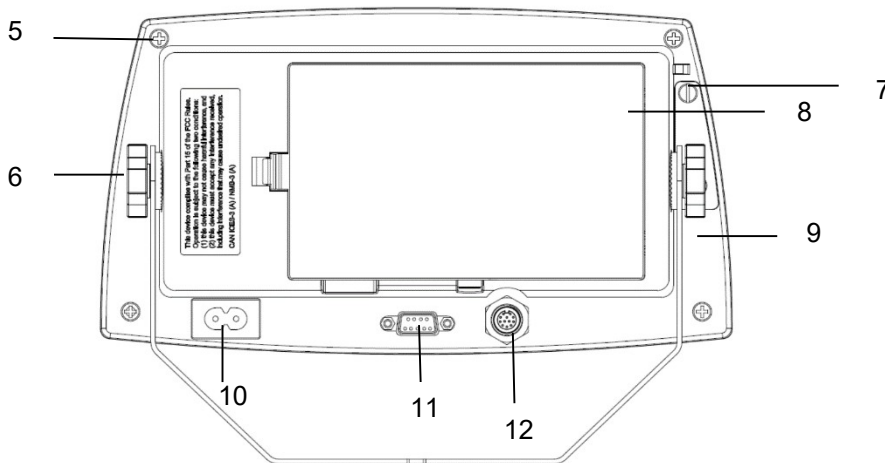

Figure 1-1 TD52P Indicator
OHAUS bases with a connector can be attached to the external load cell connector (Figure 1-1, item 12). To make the connection, plug the base connector onto the external load cell connector. Then rotate the base connector's locking ring clockwise. Refer to section 2.3.2 for bases without a connector.
Connect the optional RS232 cable to the RS232 connector (Figure 1-1, item 11).
Connect the AC power cord (supplied) to the power receptacle (Figure 1-1, item 10), then connect the AC plug to an electrical outlet.
3. Remove the metal terminal (Figure 1-1, item 12) connector from the rear housing. (green circle)